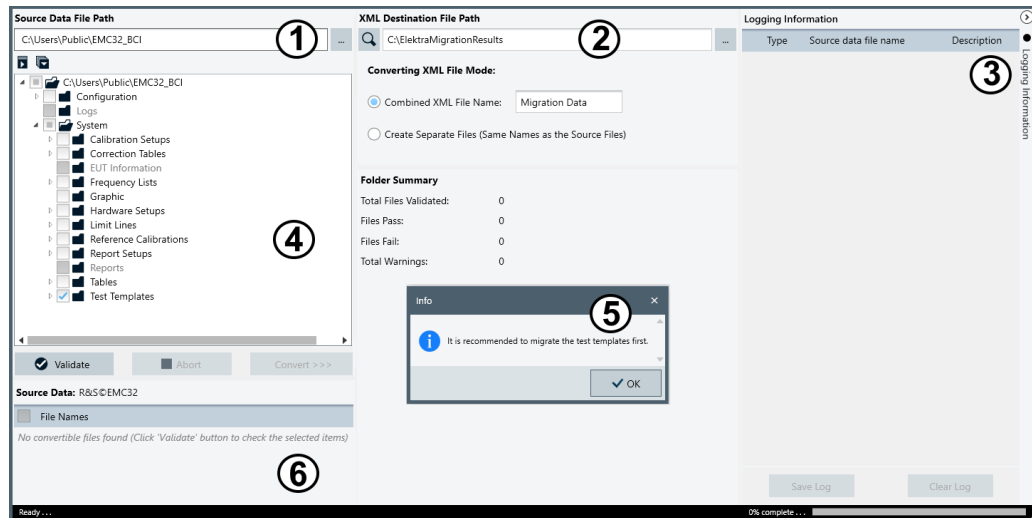

Figure 2-6: Start window of the XML converter
With your source data selection, R&S ELEKTRA prepares the appropriate settings. It displays the following dialog window (Figure 2-6) and a pop-up message box (5). You can start using the tool after acknowledging the pop-up message.